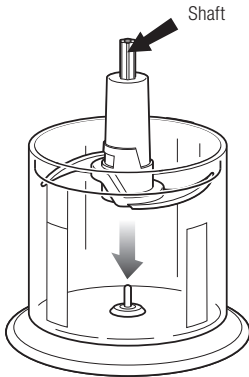

Fig. 1
- Use the Ninja 6-Blade Assembly in the 48 oz. Pitcher. (fig. 1)
- 2 Holding the Lower Chopping Blade Assembly by the shaft, place it over the spindle pin inside the Master Prep Professional Bowl. (fig. 1)